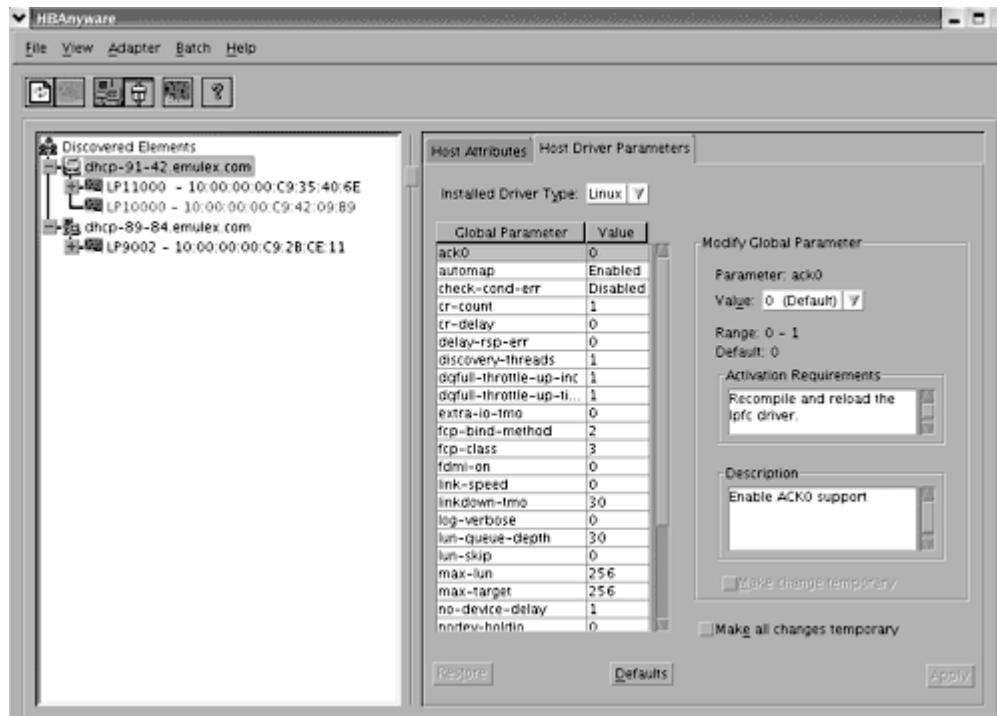

Figure 19: The HBAAnyware, Host Driver Parameters Tab
3. Click the **Host Driver Parameters** tab (Figure 19). The Installed Driver Types drop-down box displays a list of all driver types and driver versions that are installed on the adapters in the host.